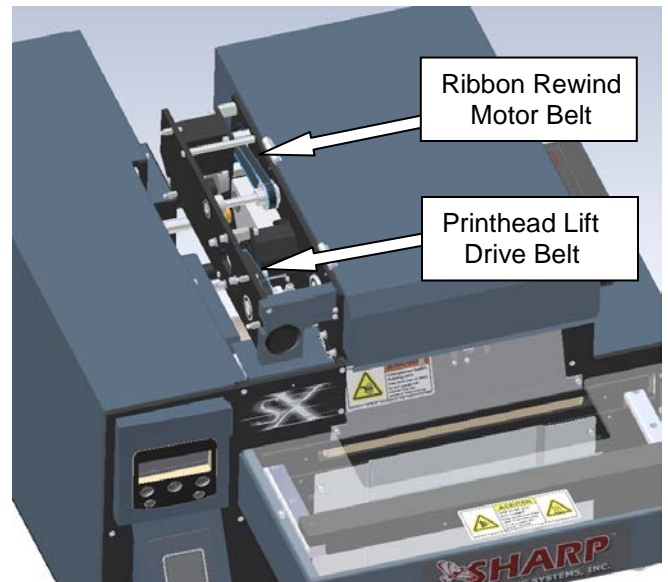

Figure 2-12. Ribbon Rewind Motor Belt and Printhead Lift Drive Belt
6. Check the tension on the ribbon rewind motor drive belt (Figure 2-12) using the same procedure for the film feed drive belt. This belt should deflect about 1/16".
8. Check the tension on the printhead lift drive belt (Figure 2-12). This belt should deflect 1/16". If incorrect, follow method in step seven to achieve proper tension.